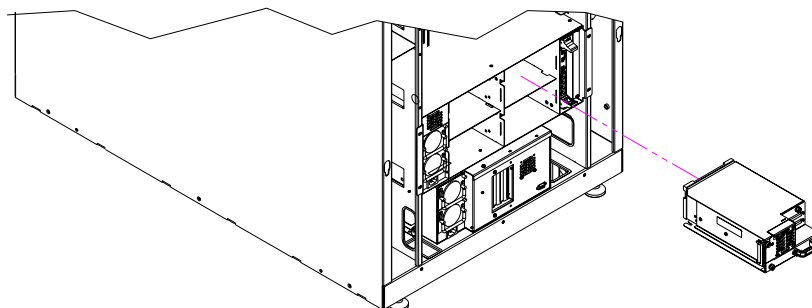

Figure 36: Installing a tape drive
3. Slide each tape drive into an open bay in the drive cluster (see Figure 36).